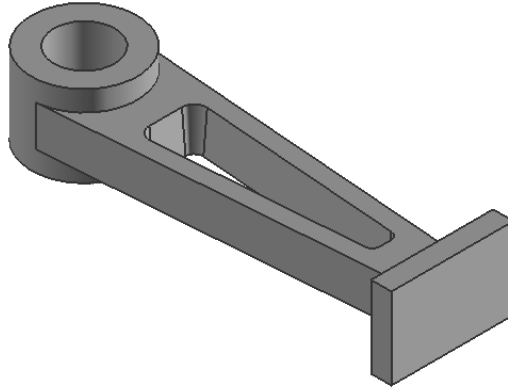

Figure 8-67 The model after creating the pad feature
- f. Create the rectangular pad using the **Pad** tool, refer to Figure 8-67.
10. Choose the **OK** button twice and then the **Cancel** button once. The rectangular pad feature is shown in Figure 8-67.